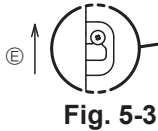

Fig. 5-3
3. Loosen the two screws securing the electrical box cover, then slide the cover and remove it. (The cover may be hung temporarily.) (Fig. 5-3)